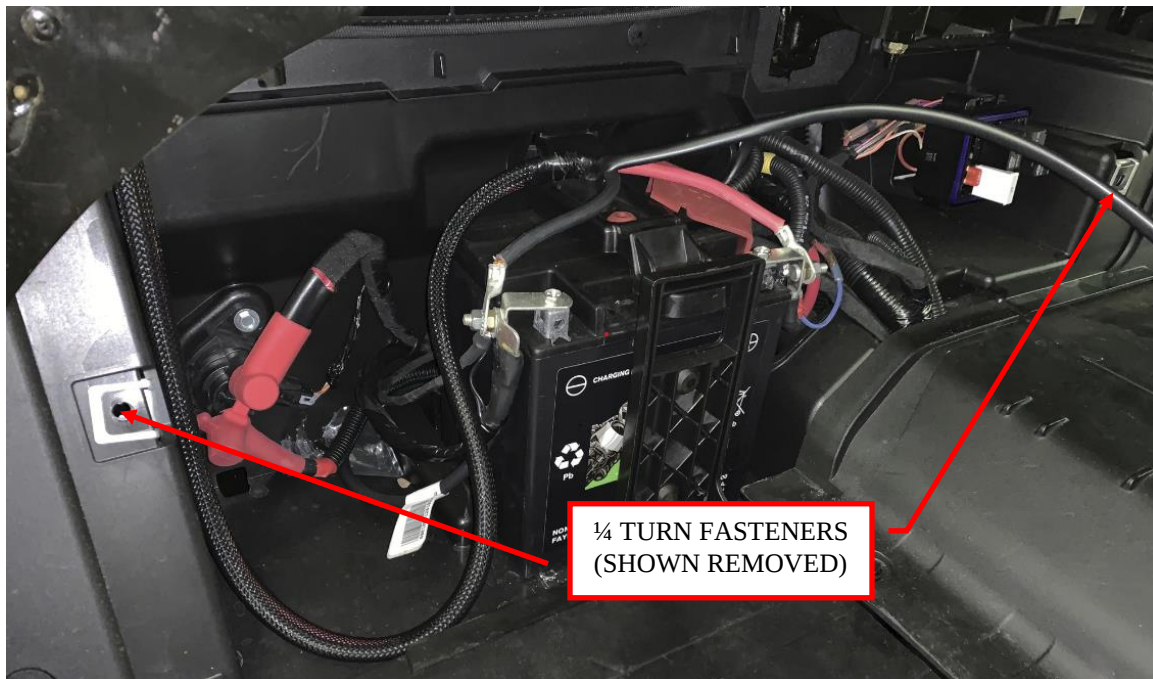

Figure 9: Fold seat up and remove panel for battery access.
10. Fold the passenger seat up to access the battery. With the seat folded up, remove the passenger side battery access panel by turning the $\frac{1}{4}$ turn latches. See Figure 9.
21. Close the hood, reinstall the wire access tunnel cover, and battery cover. The corner of the battery cover can be trimmed to allow the Audio Shade harness to pass through for a better fit. See Figure 12 and Figure 9.